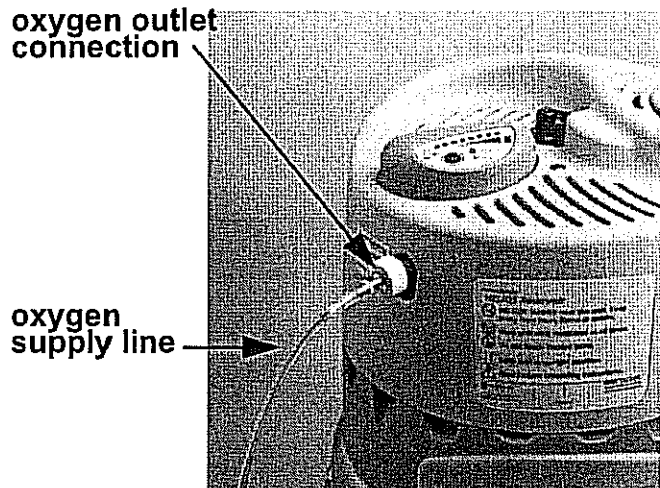

Figure 8: Connecting supply line to Reservoir
1. Thread the oxygen supply line nut onto the Reservoir oxygen supply outlet as pictured below (Figure 8). Make sure the oxygen supply line and connection is tight. If a hissing sound is heard, tighten until the hissing stops.